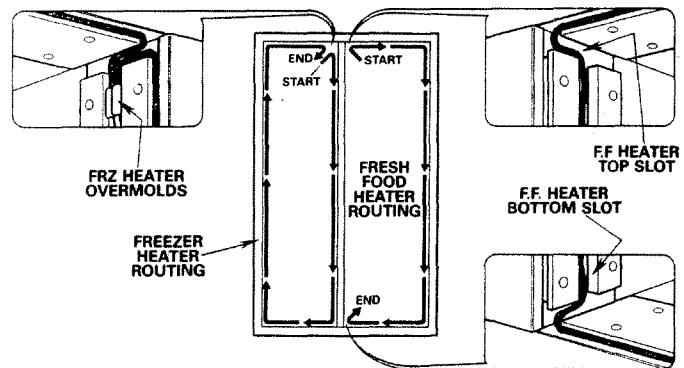

Figure 9 - Routing Heater in Breaker Channel
13. Route the heater wire around the outside of the freezer compartment wedging it in the breaker channel between the mullion and the primary breaker. See Figure 9. Move clockwise around the compartment until the end of the heater is back to the starting point. Stretch the heater wire slightly as you install it so you will end up with enough to place the wire overmold into the wire slot.
20. Route the heater in the channel, moving clockwise, until the pink end of the heater wire is located at the bottom wire slot. Place the wire in the breaker channel as shown in Figure 9.